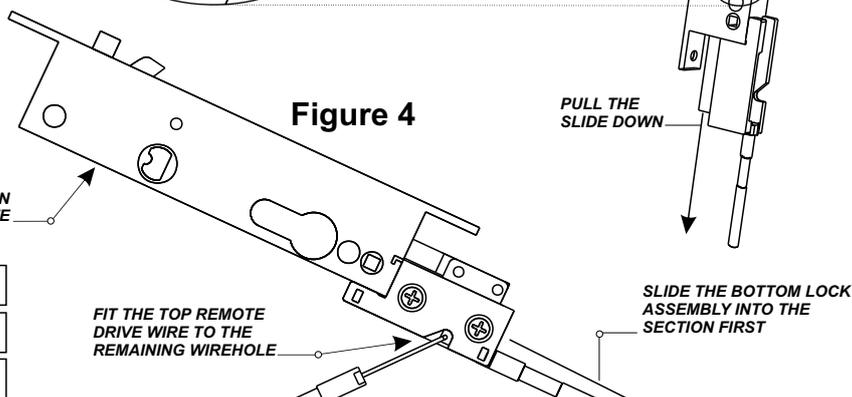

Figure 4
Installing the TOP Lock (Figures 4 & 5)
- 1 While holding the centre lock aside, slide the top lock into the section and hook the **drive wire** into the remaining wire hole in the **drive box coupler** (Figure 4).